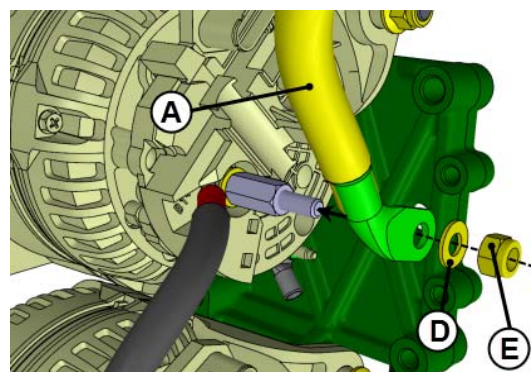

FIGURE 19
26. Reinstall the (+) power cable **A**. To do so, connect power cable **A** to the upper alternator **B1+** stud terminal. Refer to **FIGURE 19**.